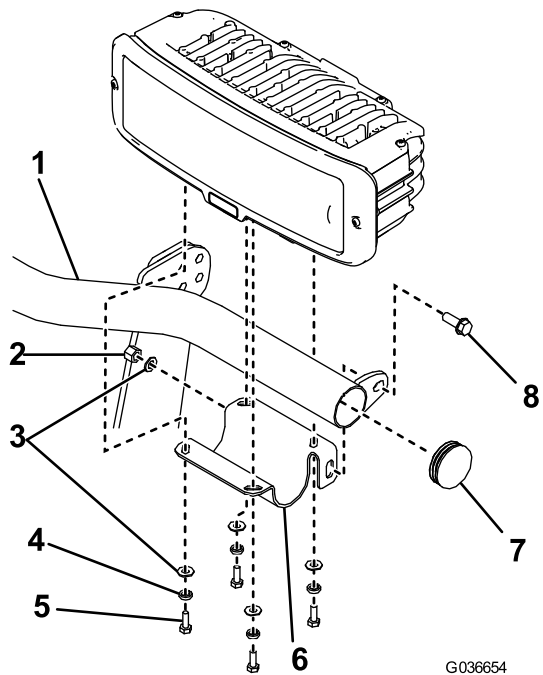

Figure 12
2. Ensure that the end caps are installed on the ends of the light bar (Figure 12).
3. Secure the left headlight-bracket to the light bar using a flange-head bolt (3/8 x 1 inch), a flat washer, and a nylon locknut (Figure 12).
4. Secure the left headlight to the headlight bracket using 4 bolts (1/4 x 3/4 inch), split lock washers, and flat washers (Figure 12).